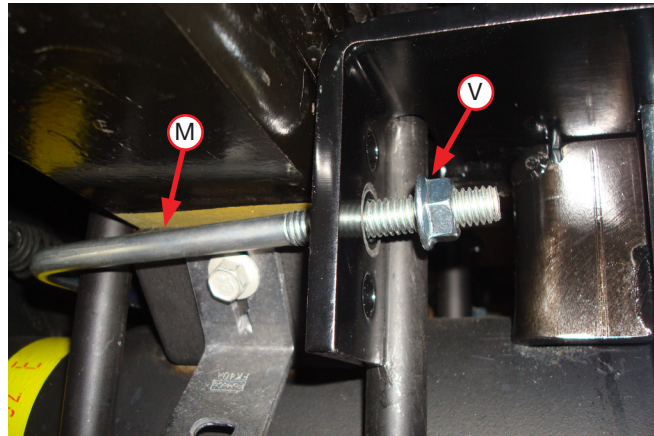

Fig. 31
- Install the U-bolts (M) around the stock leaf spring U-bolts and insert through the closest set of holes that will position the U-bolts closest to the leaf spring (Fig. 31). Cap with 3/8"-16 serrated flange lock nuts (V). Snug the bolts evenly, just tight enough to hold the lower bracket flush against the stock U-bolts.